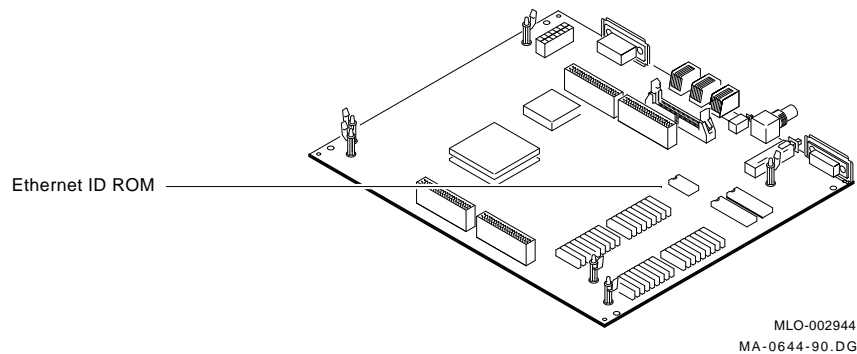

Figure 2-10 Location of Ethernet ID ROM
4. Exchange the Ethernet I.D. ROM from the system module you removed with the Ethernet I.D. ROM on the new system module. Verify the correct position of pin 1 (notched) on the ROM (Figure 2-10).